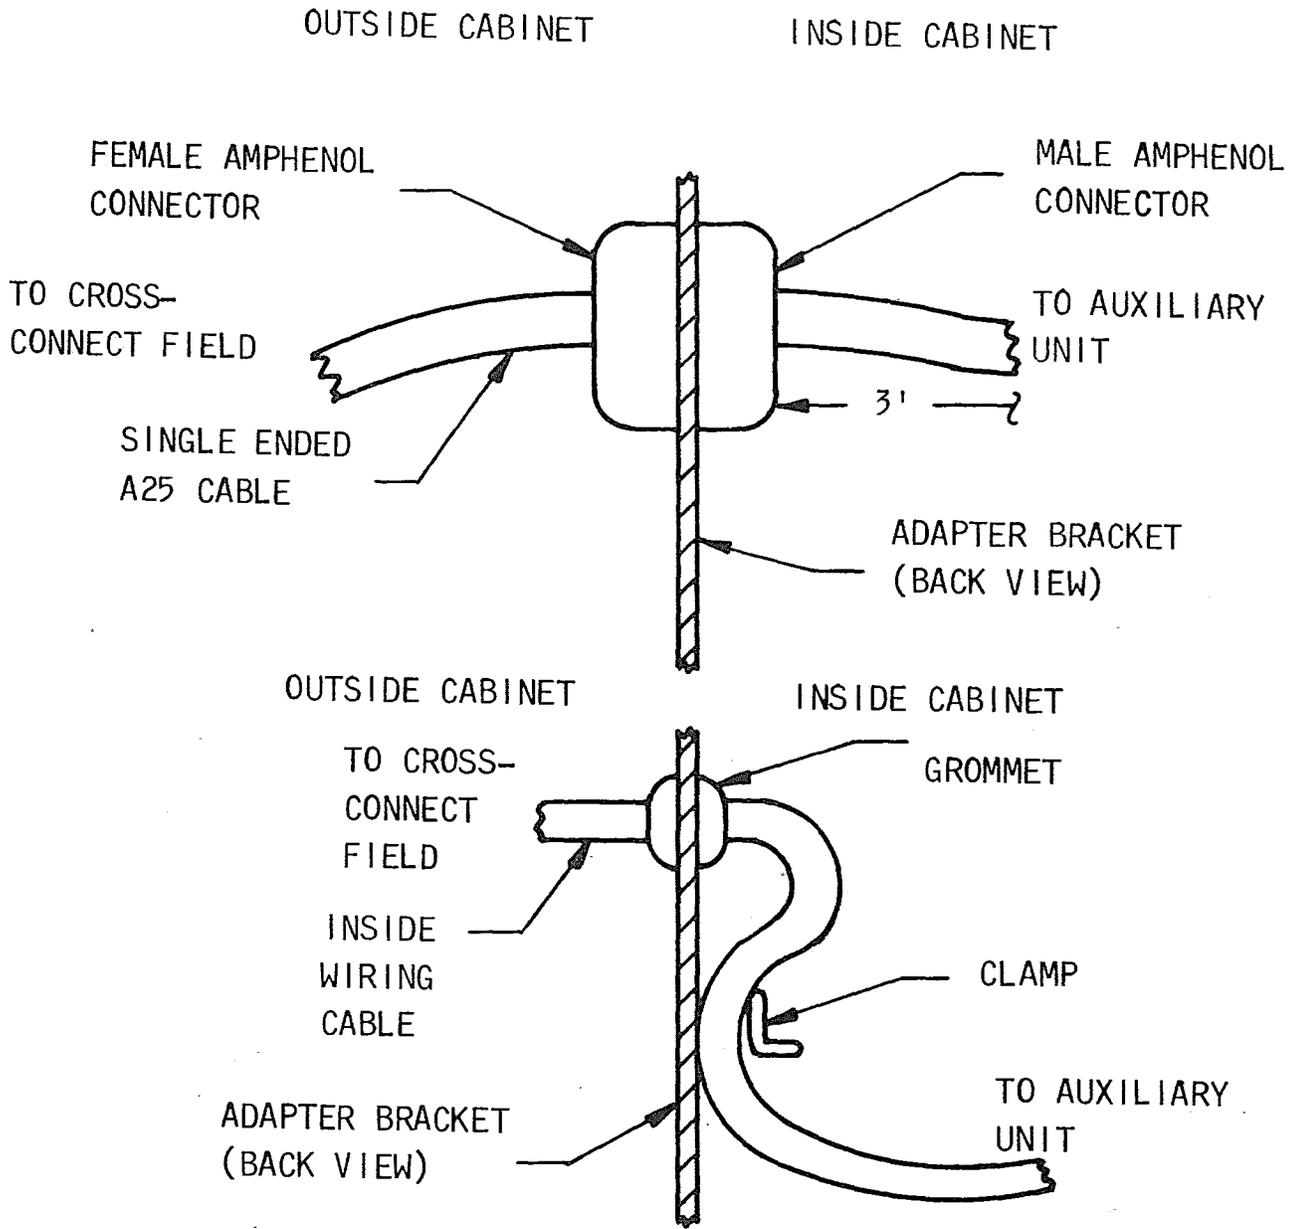

FIG. 1
1.3 Refer to Figures 1 and 2 for typical connections required.
Note: Announcement Circuit may be connectorized or hard-wired to cable routed to cross-connect field. See Figure 1. If the unit is connectorized, secure both the cable from the Announcement Circuit and the cable from cross-connect field at the adapter bracket. If the unit is to be hard-wired, run the cable through the adapter bracket grommet and secure with a clamp after being assured that the cable will reach the TBI terminal strip on the front of the Announcement Circuit.